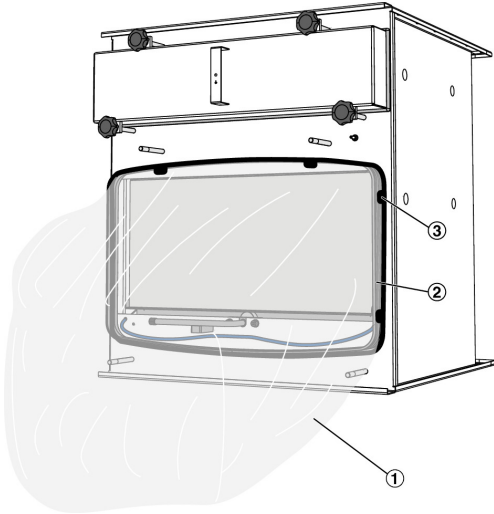

Fig. 7: Attaching the maintenance sack
- 7. ▶ Put the maintenance sack (Fig. 7/1) over the service board (Fig. 7/2) and fasten it in the first groove with the clamping ring (Fig. 7/3).